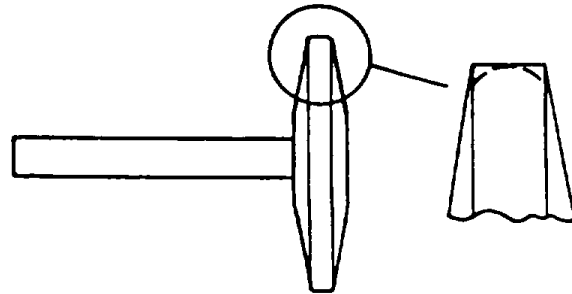

Figure 13-10.
10. Using stone or equivalent, grind smooth all gas and coolant erosion on combustion surface (Figure 13-10).